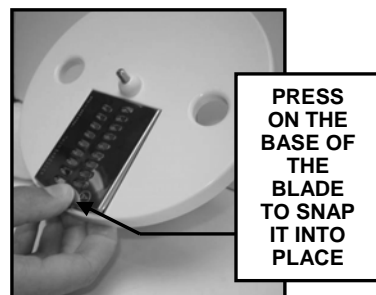

Fig. 7
- Once in place, use thumb to press on the base of the blade to snap it into place. (Fig. 7) Ensure that the blade holder is securely in place before continuing.